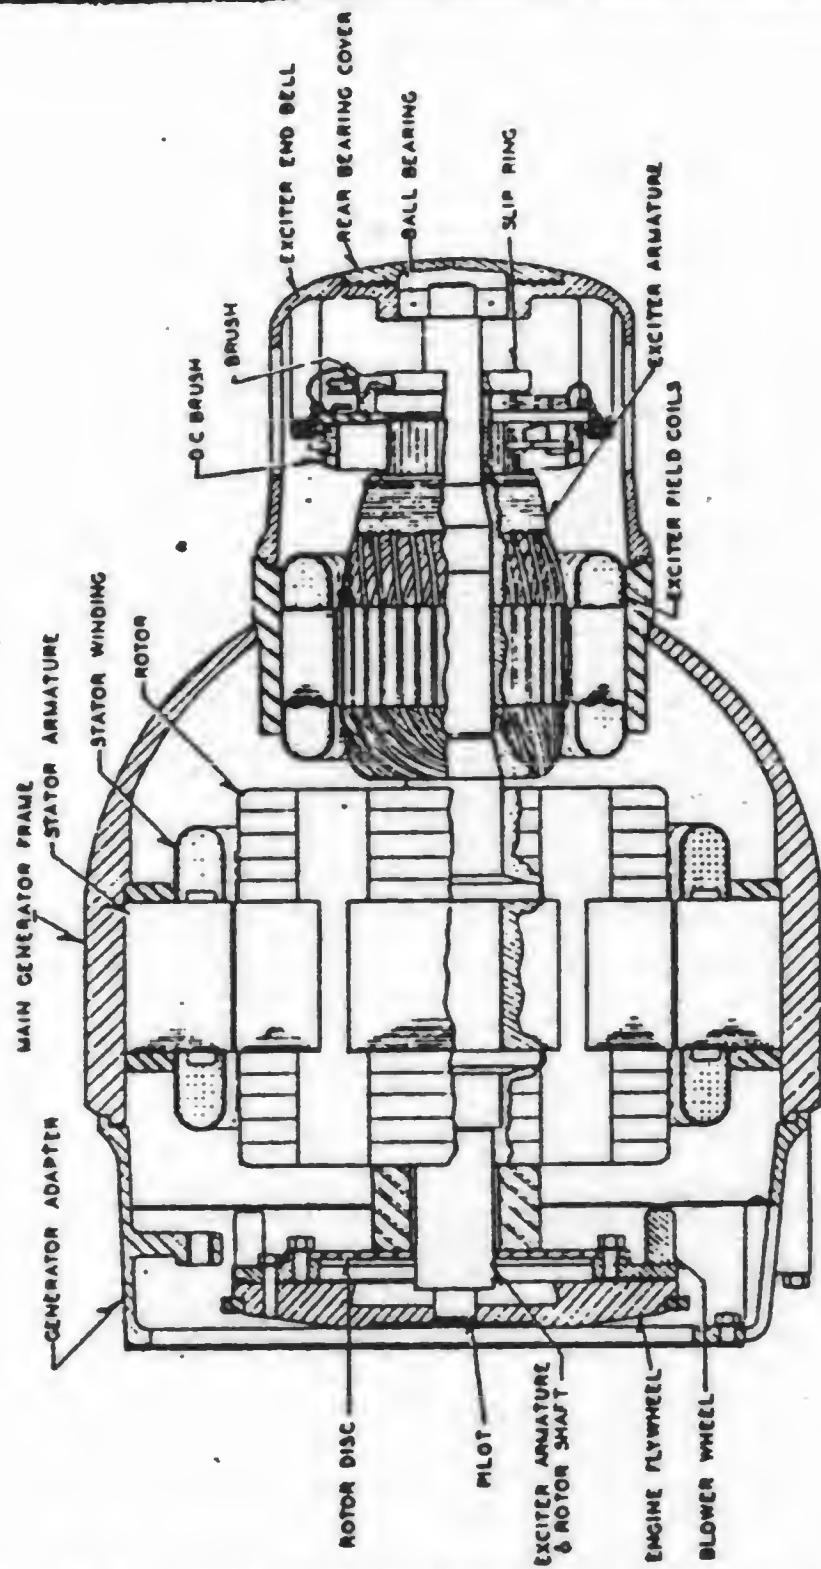

FIG. 40 GENERATOR CROSS SECTIONAL DIAGRAM
b. **Major Servicing.**—Replacement of exciter field coils, rotor or stator (Fig. 40), will require removing major parts of the generator. The housing super-structure must be removed before such major servicing of the generator can be done.
(1) Disconnect all wires leading from the power unit.
(2) Remove the side and top panels from the housing. To remove the front top panel it will be necessary to remove the bolts by which the retaining chains are attached to the panel.
(3) Disconnect all battery cables at the battery. Remove the four thumb screws and the top frame which hold the battery down. Remove the battery and the sliding battery tray.
(4) Remove three screws from the top edge of the control panel and tip the panel out and down to a horizontal position.
(5) Disconnect from the panel the bond strap extending from the exciter end bell. Disconnect the four main generator leads at the a-c terminal block. Attach numbered tags to the wires as they are removed, to assure proper connections when reassembling.
(6) Close the control panel and replace the center screw.
(7) Remove the tape from the wire harness assembly which extends forward over the generator.
(8) Disconnect the larger cable from the right hand terminal of the solenoid starting switch.
(9) Disconnect the wire from the electric choke.